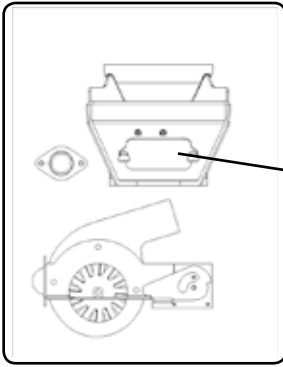

Fig. 28
7. Remove combustion blower cover by turning the blower cover latch vertical, see Fig.28. Sliding the cover out of the slot on the left. This will expose the combustion blower wheel and flue outlet.